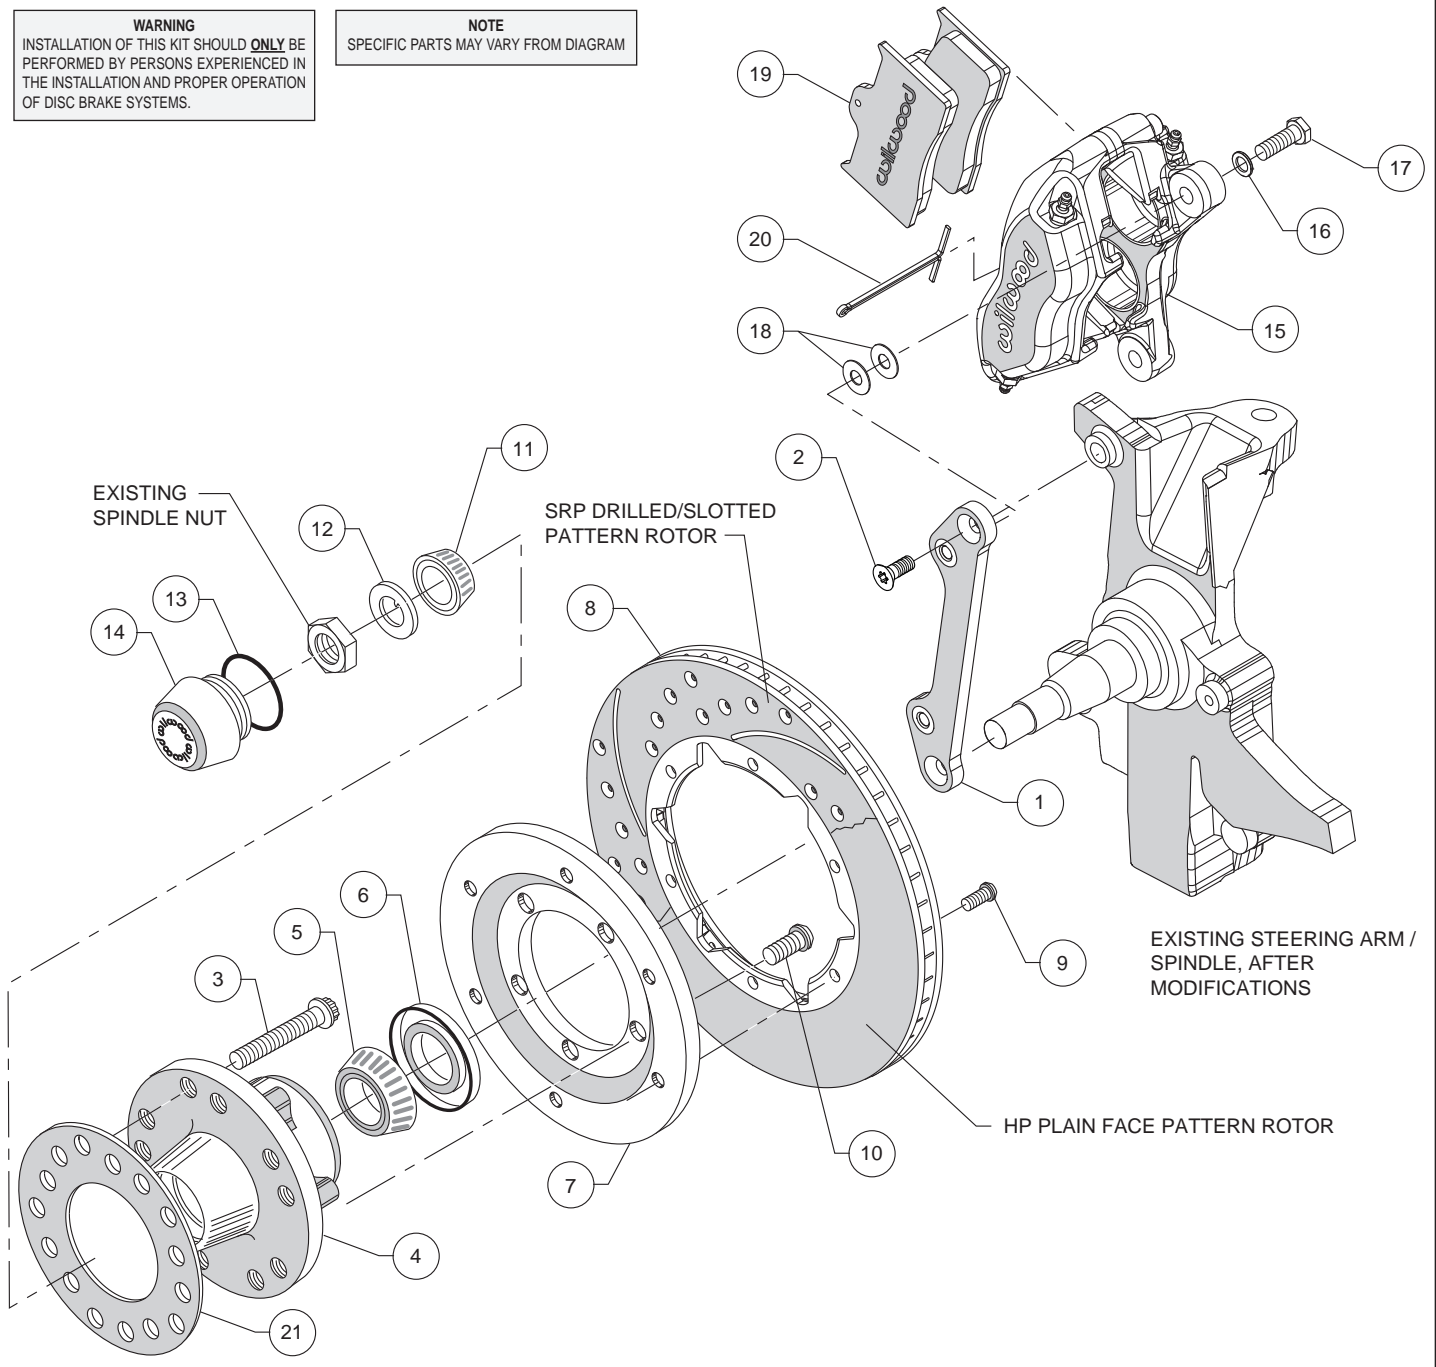
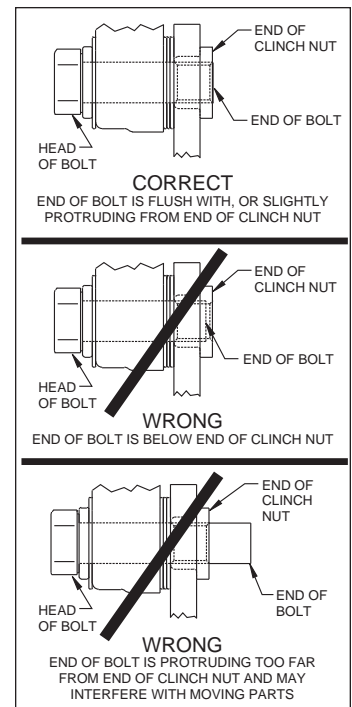

Figure 2. Typical Installation Configuration
Figure 4. Clinch Nut Engagement Diagram
**Assembly Instructions** (numbers in parenthesis refer to the parts list above, and Figure 2): **CAUTION:** All mounting bolts must fully engage clinch nuts. Be sure to check that all bolts are either flush or protruding through flanged side of clinch nut after shimming, Figure 4.
- Align caliper mounting bracket (1) with the corresponding holes, to the face of the spindle. Attach using bolts (2) as shown in Figure 2 and Photo 1. Temporarily tighten the mounting bolts. Ensure that the flanged heads of the clinch nuts in the bracket are facing outboard, Photo 1. **NOTE:** The bracket must fit squarely against the mounting points on the spindle. Inspect for interference from casting irregularities, machining ridges, burrs, etc. Remove bolts one at a time, apply red *Loctite*® 271 to threads and torque to 40 ft-lbs.
- Install wheel studs (3) into the hub (4), Photo 2. Torque to 77 ft-lb. **NOTE:** There are two five lug patterns in the hub (5 x 4.50 and 5 x 4.75). Ensure the correct hub stud pattern is being used to fit the wheel application.
- Pack the large inner bearing cone (5) with high temperature disc brake bearing grease (available from your local auto parts store) -gure 2 and Photo 4. Attach the rotor to the adapter using bolts (9). Using an alternating sequence, apply red *Loctite*® 271 to the threads, and torque to 25 ft-lb.
- Mount the adapter/rotor assembly (7/8) to the hub (4) using bolts (10), as shown in Figure 2 and Photo 5. Using an alternating sequence, apply red *Loctite*® 271 to the threads, and torque to 55 ft-lb.
- NOTE:** Please reference the caution statement at the beginning of the assembly instructions. Mount the caliper (15) onto the caliper mounting bracket (1) using bolts (17) and washers (16), as shown in Figure 2. Initially place two .035" thick shims (18) on each bolt between the caliper and the bracket, Photo 8. Temporarily tighten the mounting bolts and view the rotor (8) through the top opening of the caliper. The rotor should be centered in the caliper, Photo 9. If not, adjust by adding or subtracting shims between the bracket and the caliper. Always use the same amount of shims on each of the two mounting bolts. **NOTE:** The end of each bolt must be flush with or slightly protruding from the head of the clinch nut, as shown in Figure 4. If necessary place spare shims between washer (16) and caliper mounting ear to achieve the proper clinch nut engagement. Once the caliper alignment and clinch nut engagement are correct, remove the bolts one at a time, apply red *Loctite*® 271 to bolt threads, and torque to 40 ft-lb.